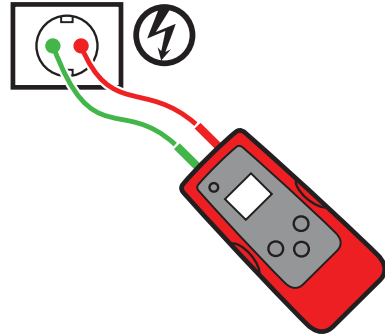

Figure 3.4a
3. Connect red and green test leads to Line and Neutral wires of the same receptacle or wire (see figure 3.4a).